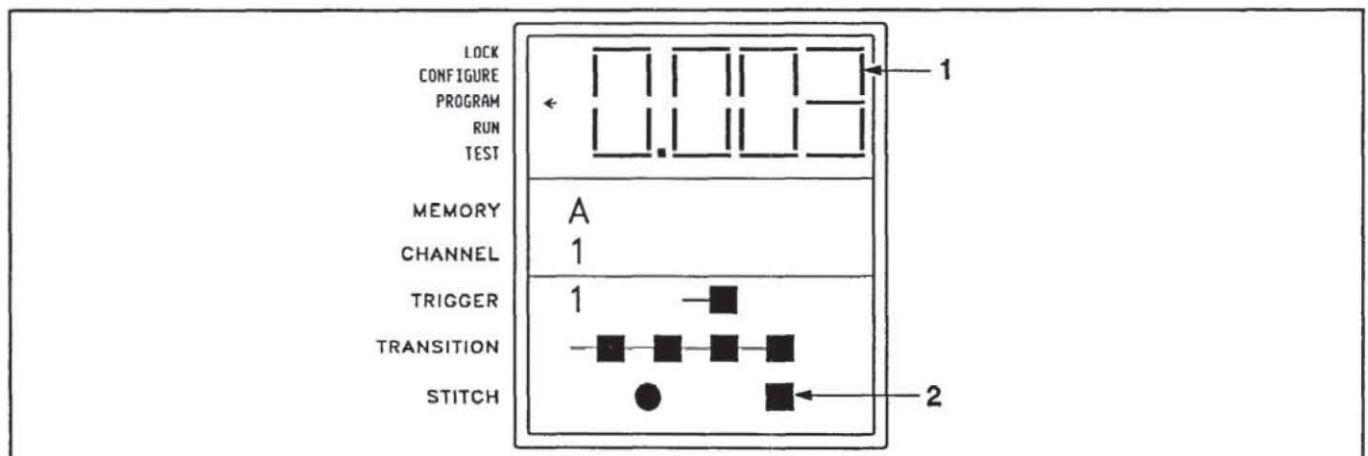

Figure 4.17 - Program mode, stitch bead display
4. Press SET.	<ul style="list-style-type: none"> <li>The percentage value is saved in memory.</li> <li>The stitch bead length symbol is flashing,</li> <li>The current bead length value is displayed, and the right-most digit is flashing (Figure 4.17)</li> </ul>